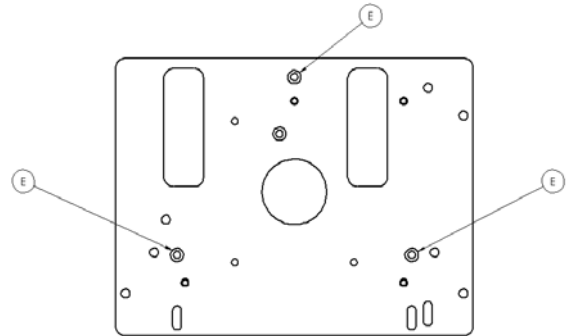

Figure 5. Group E Hole Alignment
4. Using Figure 5, find the proper mounting holes in SLB-9000 for your projector